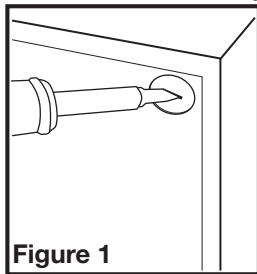

Figure 1
- Using a straight-blade screw driver remove the electrical knockout from the housing (**Figure 1**).